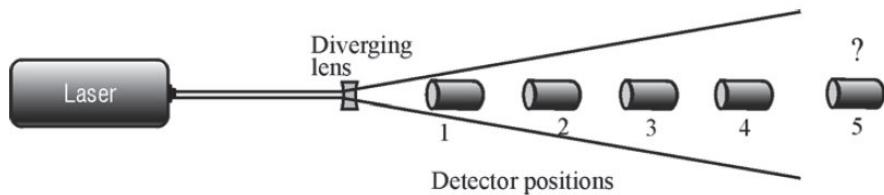
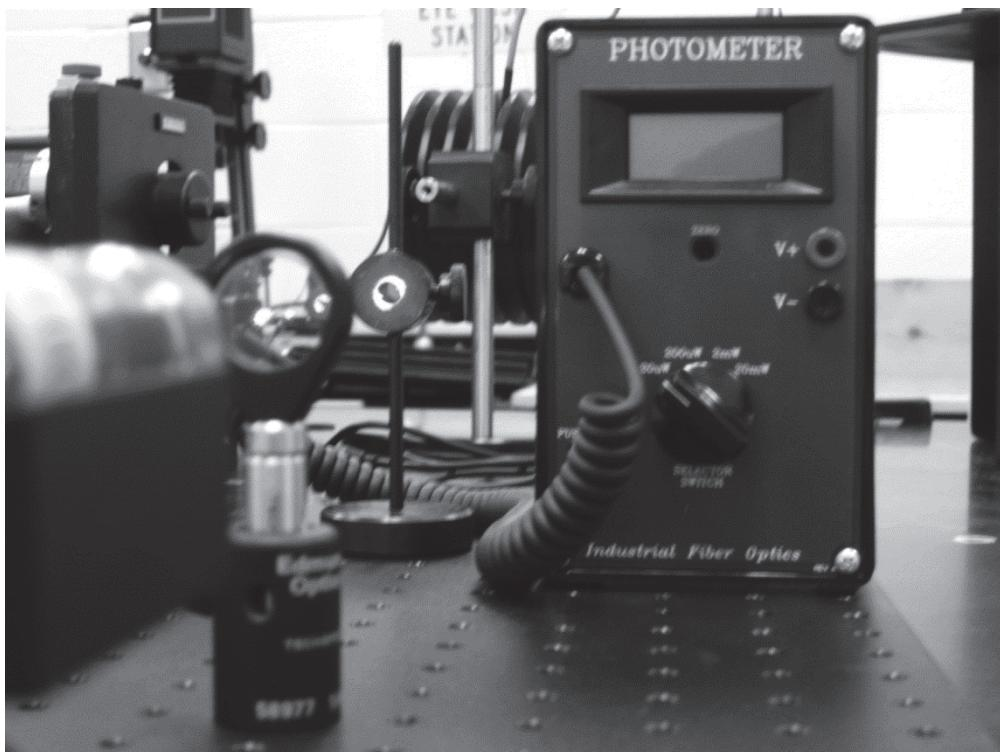
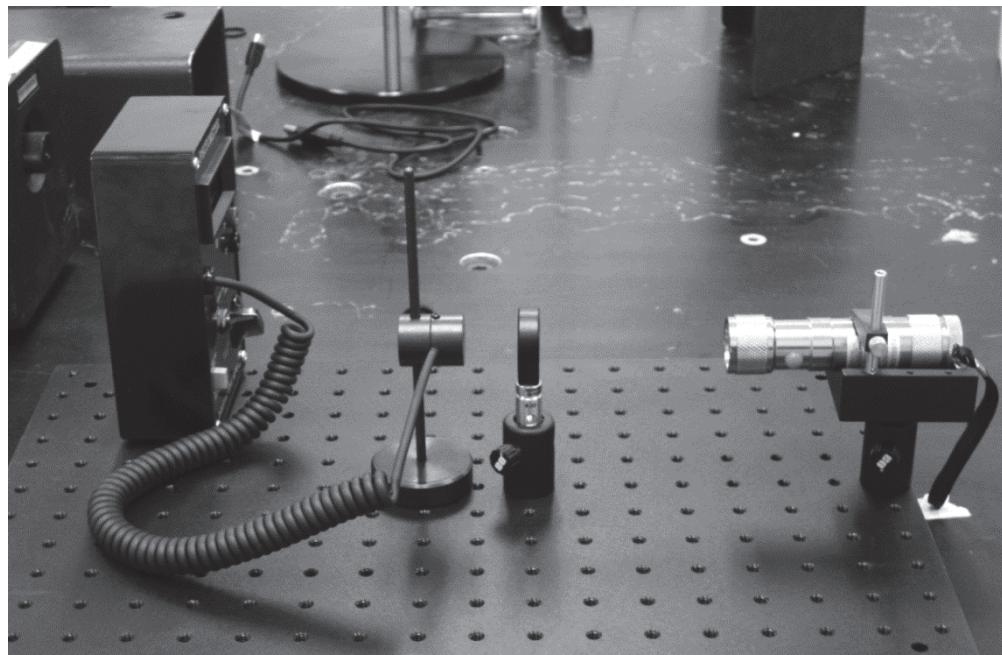

Figure 18 – Irradiance of an Expanded Beam Illustrated
Figure 19 – Expanded Beam Power Measurement Set-up
Figure 20 – Expanded Beam Power Measurement Set-up
2. Mount a 1.5" post holder onto a optical breadboard approximately 10 cm from the laser aperture. Insert a 1.5" post into the 1.5" post holder. Mount the dual filter holder (LI-9) to the post inserted into the post holder. Mount a Plano-Concave Lens (LI-7) into a 1" Fixed Lens Mount (LI-6). Mount the 1" Fixed Lens Mount onto the 1.5" post. Refer to Figure 18. Be careful of reflections off the lens when inserting the lens in the beam. Be sure that the expanded laser beam does not enter the eye directly.
3. Using the photometer, measure the power of the expanded beam at four distances from the diverging lens, as indicated in Figure 18, Figure 19, and Figure 20. The beam should be larger than the detector at the nearest point and all measurements should be made with the beam centered on the detector. Record distances and corresponding powers in Lab Table 11.